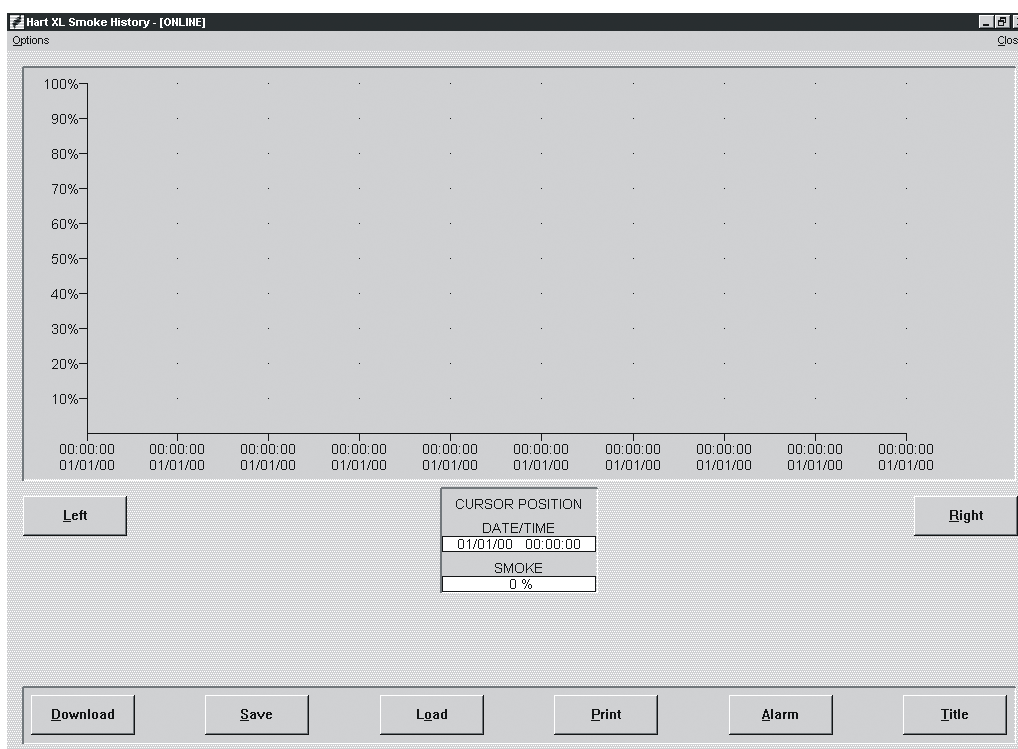

Figure 7-1. Smoke History Window
1. **Direct Detector Connection.** Either select **History** from the main screen, then select **Options>Download** from the Smoke History screen or select **Options>Smoke History>Download** from the main screen. The Smoke History window opens, as shown in Figure 7-1.